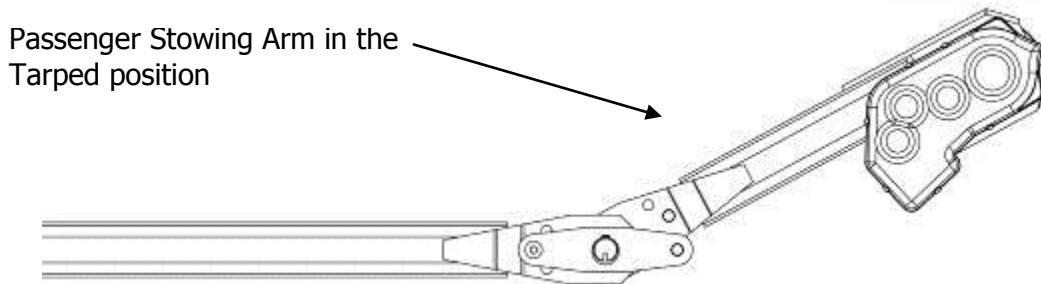

Figure 7
5. Connect the arm to the pivot pin and secure with set screws or snap ring depending on pivot type. Step 2 in figure 6 shows what the arm looks like if you are looking at the front of the trailer. The pivot arm for a Passenger Stowing Arm should mount on trailer as shown below in figure 7. Bolt gear motor on arm so that the motor tucks into the notch created by the mounting plate as shown in the figure below.